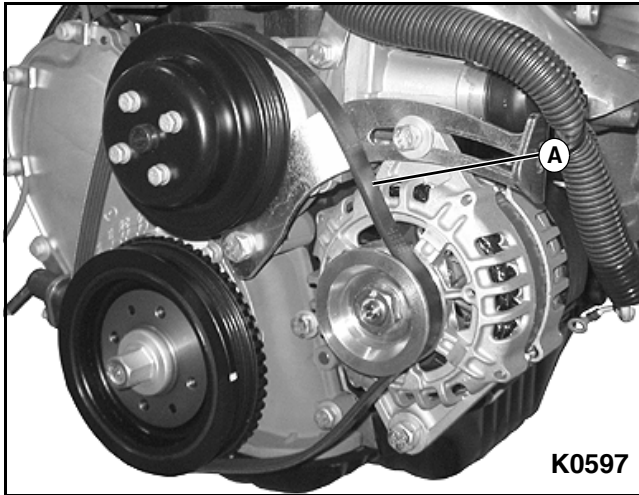

Figure 3-17
1. Install drive belt (A) as shown. See Figure 3-17.